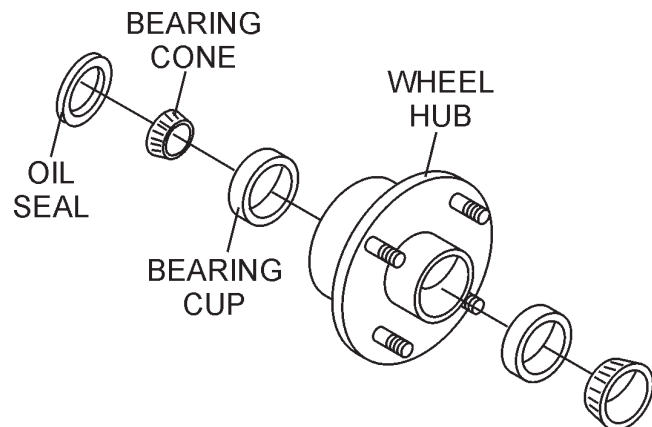

Figure 28. Wheel Hub and Bearings
1. After every 3 months of operation, remove the hub dust cap and inspect the wheel bearings (Figure 28). Once a year, or when required, disassemble the wheel hubs remove the old grease and repack the bearings forcing grease between rollers, cone and cage with a good grade of high speed wheel bearing grease (**never** use grease heavier than 265 A.S.T.M. penetration ("No. 2."))
2. Fill the wheel hub (Figure 28) with grease to the inside diameter of the outer races and also fill the hub grease cap. Reassemble the hub and mount the wheel. Then tighten the adjusting nut, at the same time turn the wheel in both directions, until there is a slight bind to be sure all the bearing surfaces are in contact.